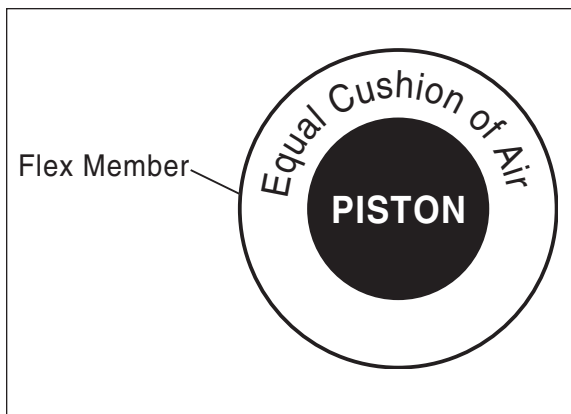

Figure 7
2. Use the slotted adjustment in the lower bracket to correctly align the air spring between the upper and lower brackets. This can be accomplished by lightly tapping it inboard or outboard for proper alignment. There should be a symmetrical cushion of air around the base of the air spring when correctly positioned (Figure 7).